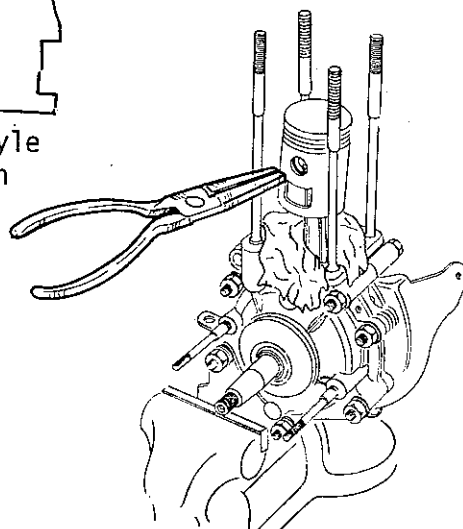

Fig. 2
- Stuff a rag into the crankcase-mouth and remove the wrist pin clips using flat nose pliers (fig. 2).